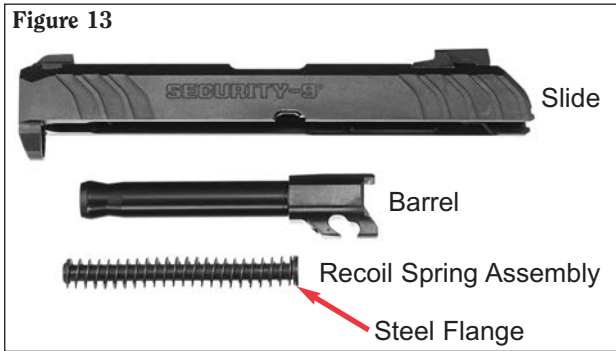

Figure 12
10. The pistol is now disassembled for cleaning (see Figure 12).